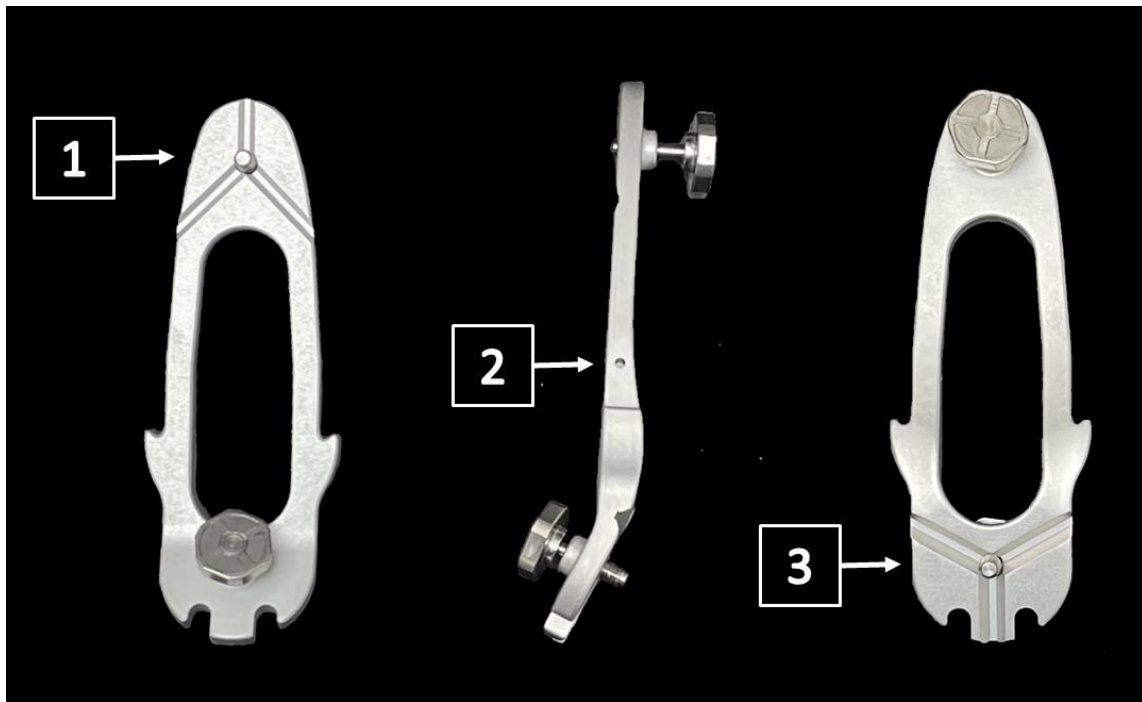
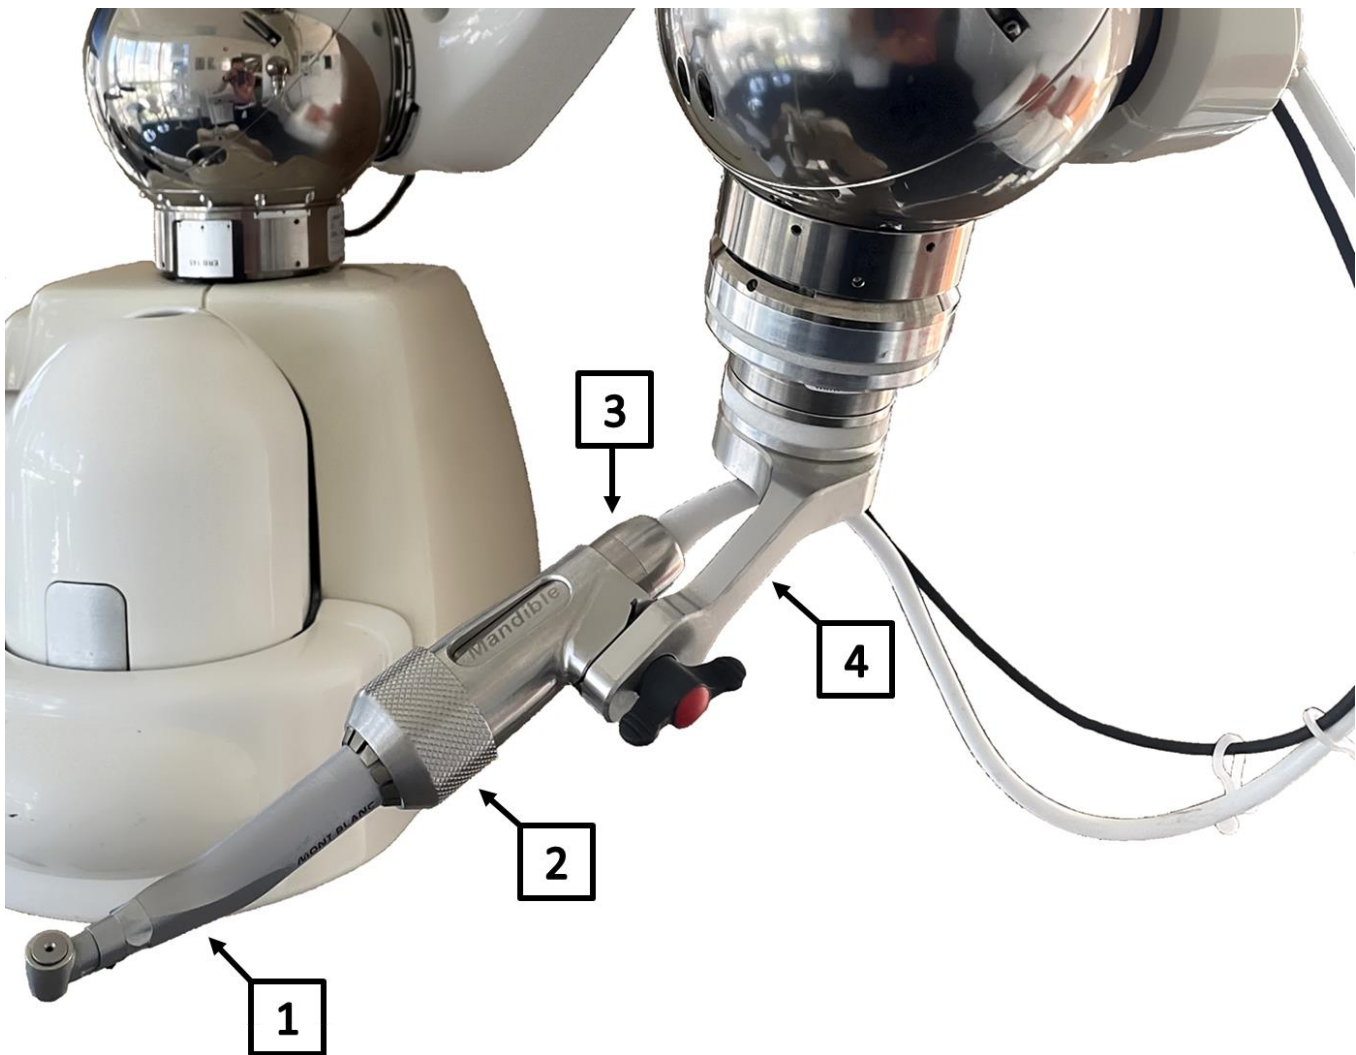

Figure 3: Patient Tracker End Effector
Figure 9: Guidance Arm End Effector
2. **Calibration Drill Bit:** used with the handpiece (Figure 9, #1), to collocate it with respect to the Drill Face Calibration Divot (Figure 3, # 2)